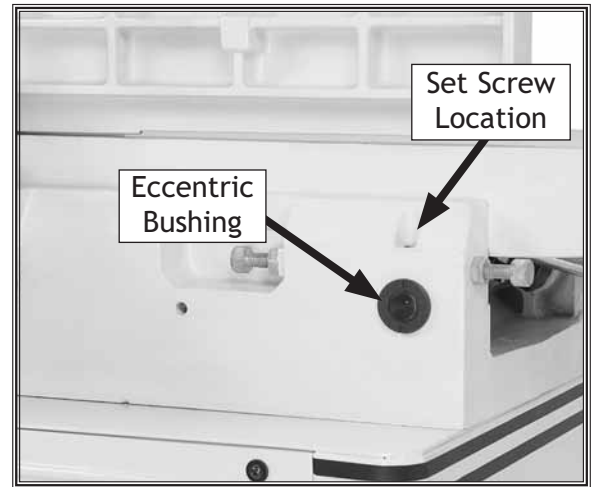

Figure 51. Eccentric bushing and set screw location.
2. Remove the set screw from each of the four eccentric bushings (**Figure 51**) under the outfeed table, and loosen the set screws underneath those removed set screws.